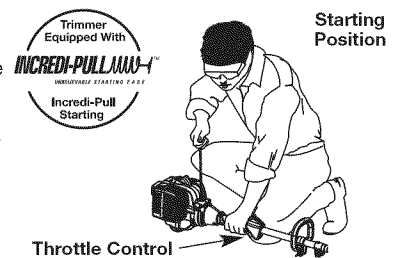

Fig. 9
**WARNING:** Avoid accidental starting. Make sure to be in the starting position when pulling the starter rope (Fig. 9). To avoid serious injury, the operator and unit must be in a stable position while starting.
5. Crouch in the starting position (Fig. 9). Do not squeeze the throttle. Pull the starter rope with a controlled motion until the unit starts.
5. Crouch in the starting position (Fig. 9). Do not squeeze the throttle. Place the Plug-In Power Start or Power Bit Start into the back of the unit. Refer to the *Operation* section of the Plug-In Power Start or Power Bit Start operator's manual.
6. Press and hold the ON (I) button of the Plug-in Power Start or Power Bit Start equipped drill in intervals no longer than 4 seconds each until the unit starts.
7. Wait and allow the unit to idle for 5 - 10 seconds. If the unit stops running during this time, squeeze the throttle control, then press and hold the ON (I) button of the Plug-in Power Start or Power Bit Start equipped drill in intervals no longer than 4 seconds each until the unit starts.
**IF...** The engine fails to start after a few attempts, squeeze the throttle control, then press and hold the Plug-In Power Start or drill ON (I) button in intervals no longer than 4 seconds each until the unit starts.